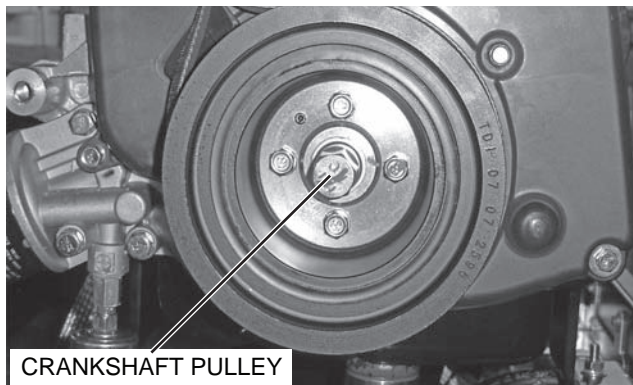

Figure 9
1. Slowly rotate the engine clockwise (tightening direction) on the crankshaft and align the cam pin to the cam sensor (Figures 9, 10 and 13).